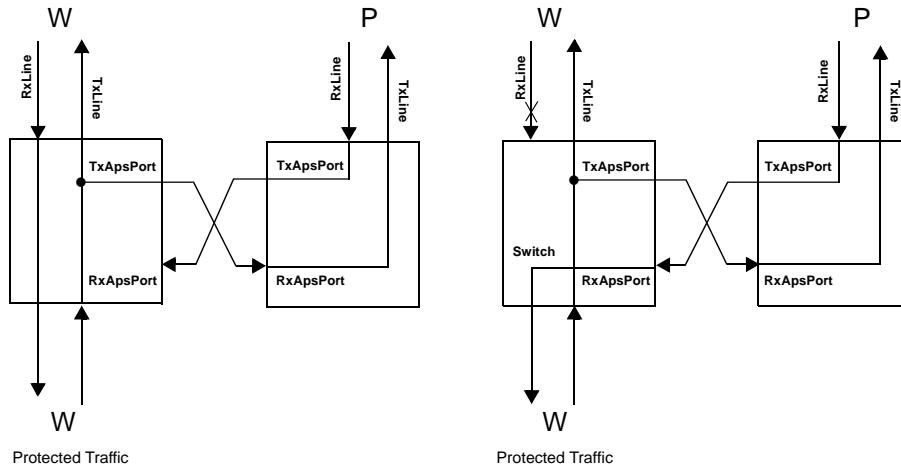

Figure 26. STM-4/OC-12, 1+1 APS
Figure 26 shows an example of a 1+1 APS protection architecture in STM-4/OC-12 mode. One PHAST-12P device handles the Worker line (W) while a second PHAST-12P handles the Protection line (P). Both devices are interconnected through the full bandwidth of APS Port interface. The cross connects of both devices setup a permanent bridge from the Worker Transmit line to the Protection Transmit line over one of the APS Port interfaces. The received protection payload is available on the other APS Port interface.